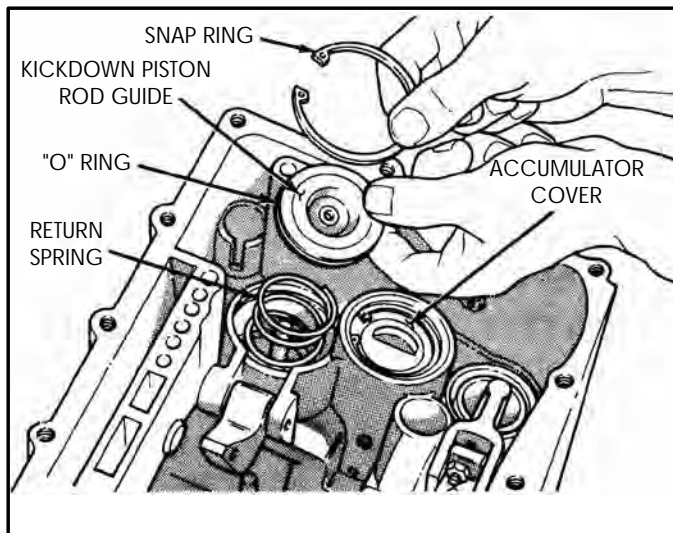

Figure 211
6. Install kickdown piston rod guide and snap ring, as shown in Figure 211.